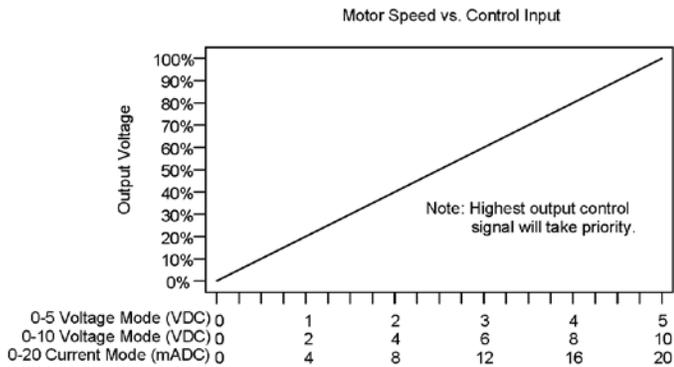

Figure 2: Motor voltage vs. analog control signal input
**Analog control signal input motor control:** The voltage applied to the motor is determined by the analog control signal input (0-5V, 0-10V, 0-20mA). The relationship between motor voltage and control signal is shown in Figure 2.